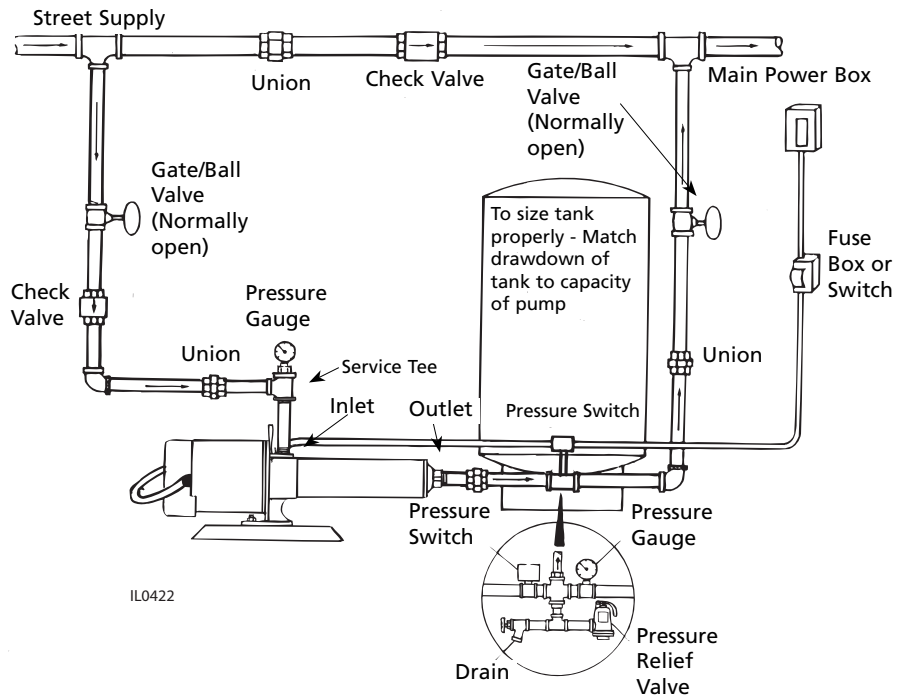

Figure 6
1. Refer to Figures 6, 7, and 8 for typical installations.
- On pressure boost systems, locate the pump so that there will always be a positive supply of water to the pump (See Figures 6, 7 and 8).
- Install a check valve as shown in Figure 6. Be sure check valve flow arrows point in the direction of water flow.
- A pressure gauge installed in the inlet pipe close to the inlet port, (See Figure 6) will show if enough water is being supplied to the pump. See Operation Section - Priming, Pressure Boost Installations.
Priming is automatic when pump is connected to a pressure source such as a hydrant or city main (See Figures 6, 7 & 8).
3. If you installed a pressure gauge at the pump inlet, a reading of 2 psi minimum should show whenever the pump is in operation (See Figures 6, 7 & 8).